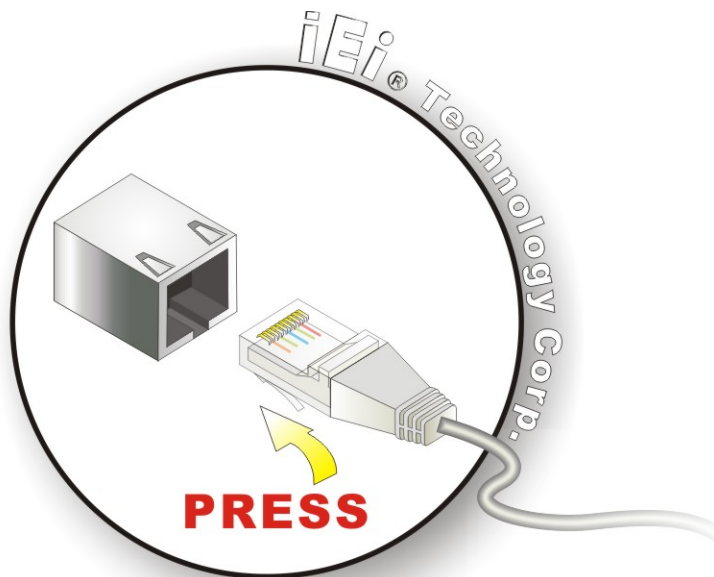

Figure 4-15: LAN Connection
Step 2: Align the connector. Align the RJ-45 connector on the LAN cable with the RJ-45 connectors on the bottom panel of the AFL2-12A-HM65. See **Figure 4-15**.